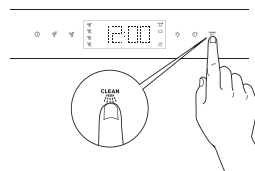

Fig. 14
4. Activate Self-Clean by pressing the button  once. (Fig. 14)